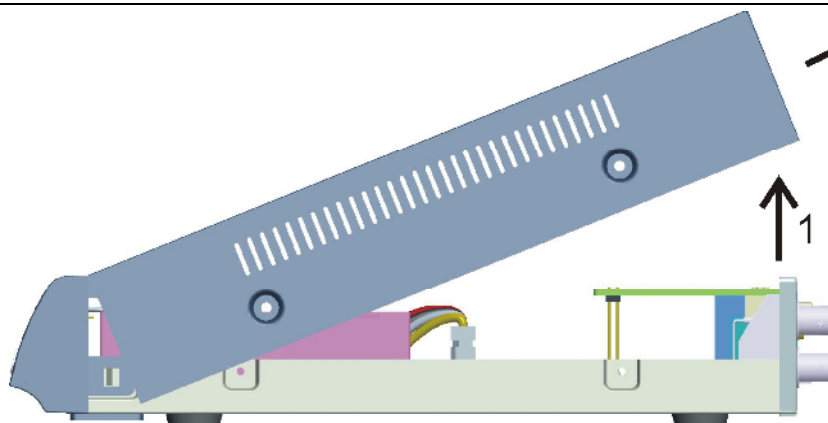

Fig. 1
1. Remove DVR Lid. Open DVR as shown in Fig.1.